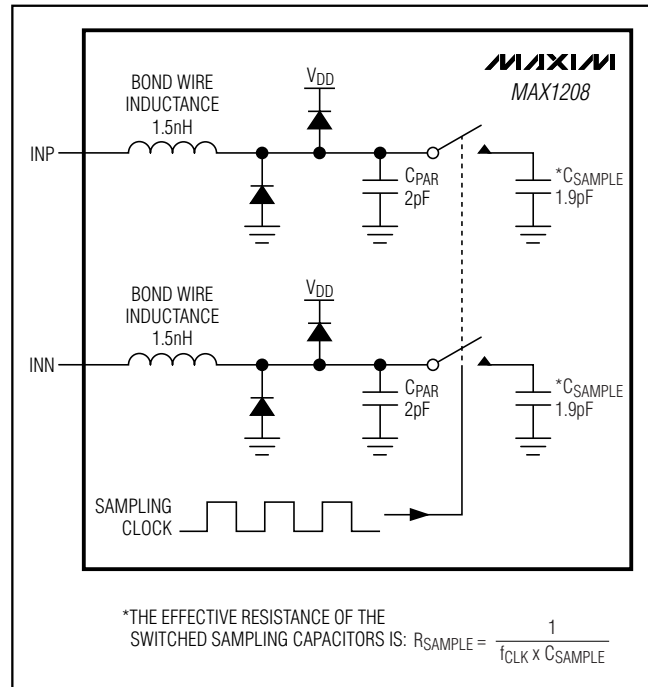
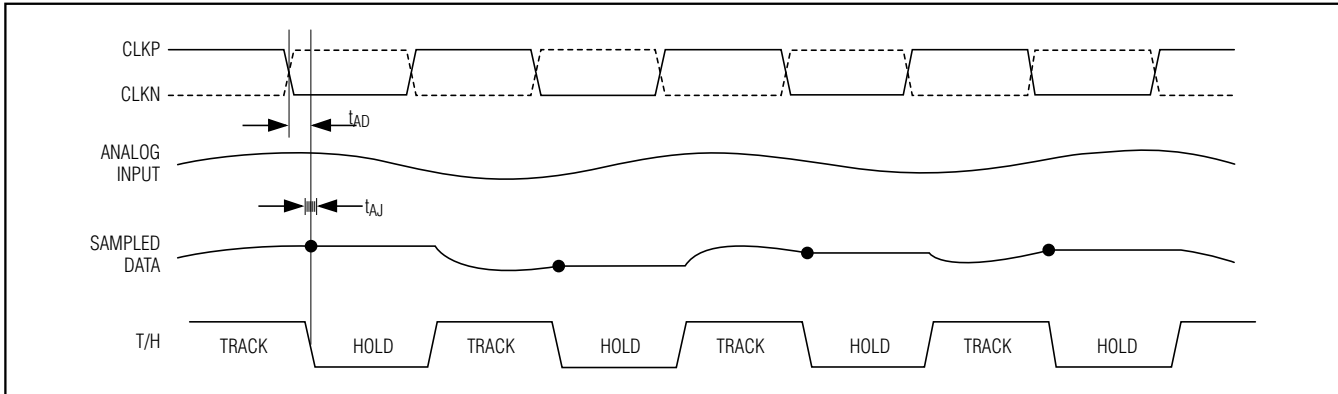

Figure 3. Simplified Input Track-and-Hold Circuit
Figure 4. T/H Aperture Timing
Figure 3 displays a simplified functional diagram of the input T/H circuit. This input T/H circuit allows for high analog input frequencies up to 70MHz and supports a common-mode input voltage of  $V_{DD} / 2 \pm 0.5V$ .
The MAX1208 sampling clock controls the ADC's switched-capacitor T/H architecture (Figure 3), allowing the analog input signal to be stored as charge on the sampling capacitors. These switches are closed (track) when the sampling clock is high and open (hold) when the sampling clock is low (Figure 4). The analog input signal source must be capable of providing the dynamic current necessary to charge and discharge the sampling capacitors. To avoid signal degradation, these
- INP, INN analog inputs are disconnected from the internal input amplifier (Figure 3).